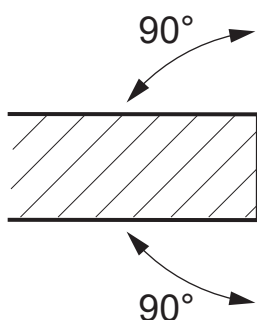

**Figure 35**—Ledger knife in the lower rotor housing
8. Install the ledger knife fasteners. See *Figure 35 on page 49*.